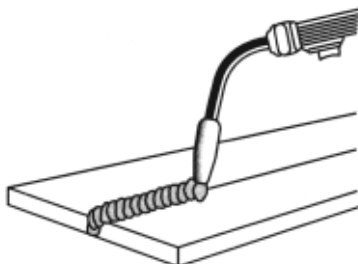

Figure 21. Flat Position
1. The **FLAT POSITION** (Figure 21) is the easiest of the welding positions and is most commonly used. It is best if you can weld in the flat position if at all possible as good results are easier to achieve.